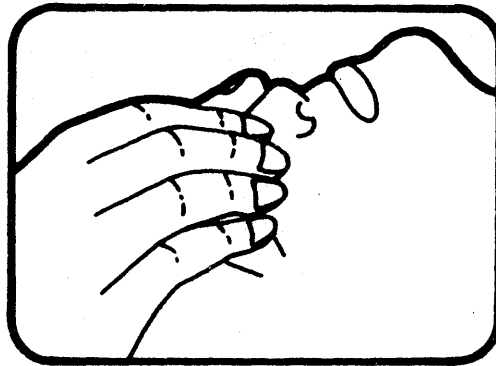

Figure 2.
- a. Keep the victim's head tilted backward; (see Figure 1). Continue to press on the forehead with your hand; at the same time, rotate this same hand so that you can pinch together the victim's nostrils with your thumb and finger. See Figure 2.